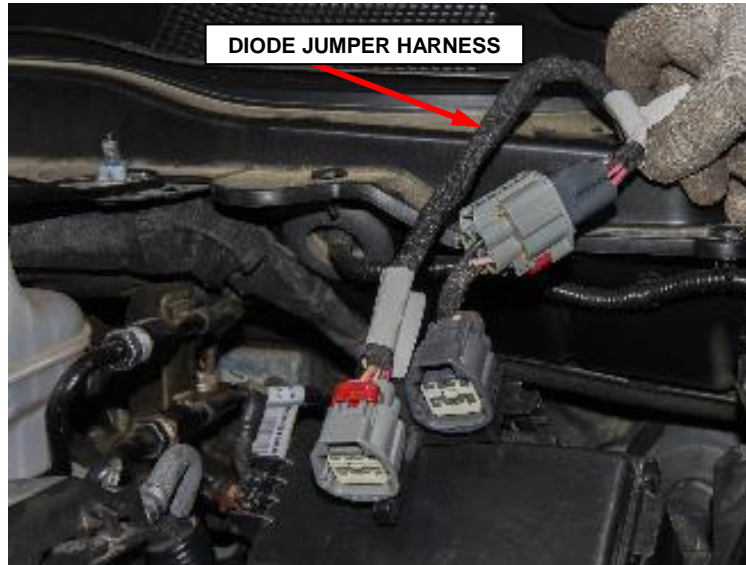

Figure 14 – Adding the Jumper Harness
17. Connect the male end of the jumper to the female end of the PTO harness. Verify that the Connector Position Assurance (CPA) lock is secure (Figure 14).